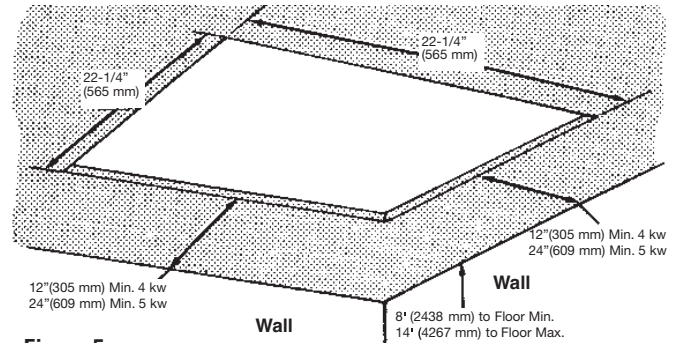

**Figure 4**
15. Position the heater in the T-bar grid (Figure 4) and secure as required. See Warning No. 9.